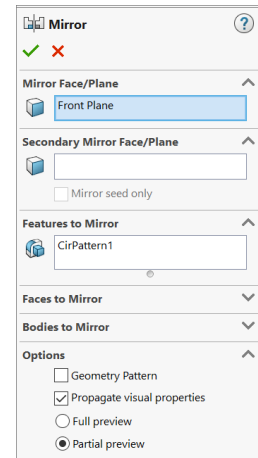

Fig. 80
Step 3. In the Mirror Property Manager click **OK**, **Fig. 80**.